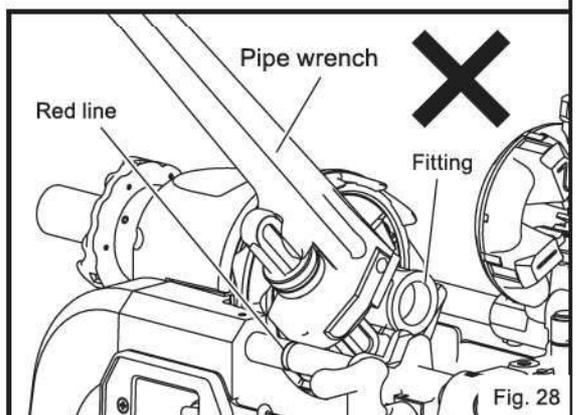

Fig. 28
Start the thread cutting process with the carriage to the right of the red line on the front support bar. (Fig. 28)
14. Improper use of a pipe wrench (Fig. 28)
As shown in Fig. 28, a pipe is positioned in the machine and a wrench is being used to tighten the fitting; never do this as there is high risk of damaging the machine.